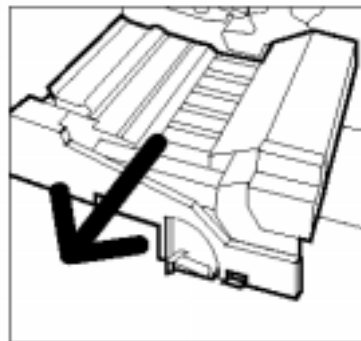

Figure 35: Pulling out the Paper Path Module
- 4** Grasp the Paper Path Module and firmly pull the module out of the copier/printer until it is fully open, as illustrated in Figure 35.